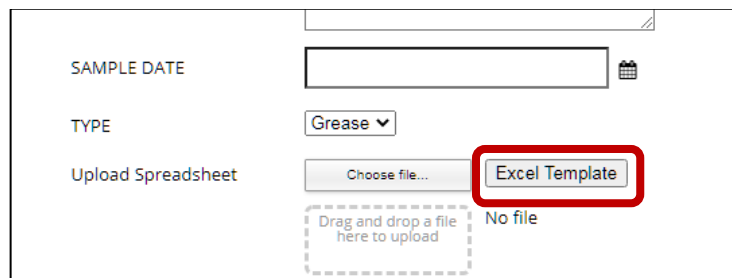

Figure 10 New Sample Input window with the Excel Template button highlighted in red.
13. Scroll to the bottom of the New Sample Input window and click the **Excel Template** button (Figure 10) to download a sample input excel template file.